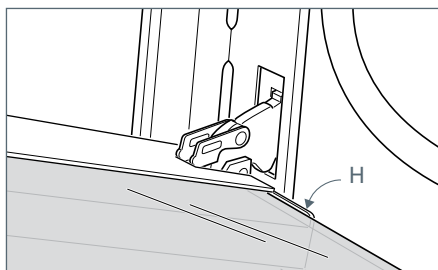

Fig.39c
- Insert the pane in the left "E" and right "F" slide guides, and gently slide it to the retainers "H" (Fig. 39c).